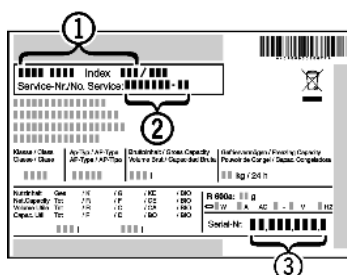

Fig. 14
- ▶ Read the appliance designation *Fig. 14 (1)*, service No. *Fig. 14 (2)* and serial No. *Fig. 14 (3)* off the type plate located inside the appliance on the left-hand side.
- ▶ Notify the customer service, specifying the fault, appliance designation *Fig. 14 (1)*, service No. *Fig. 14 (2)* and serial No. *Fig. 14 (3)*.